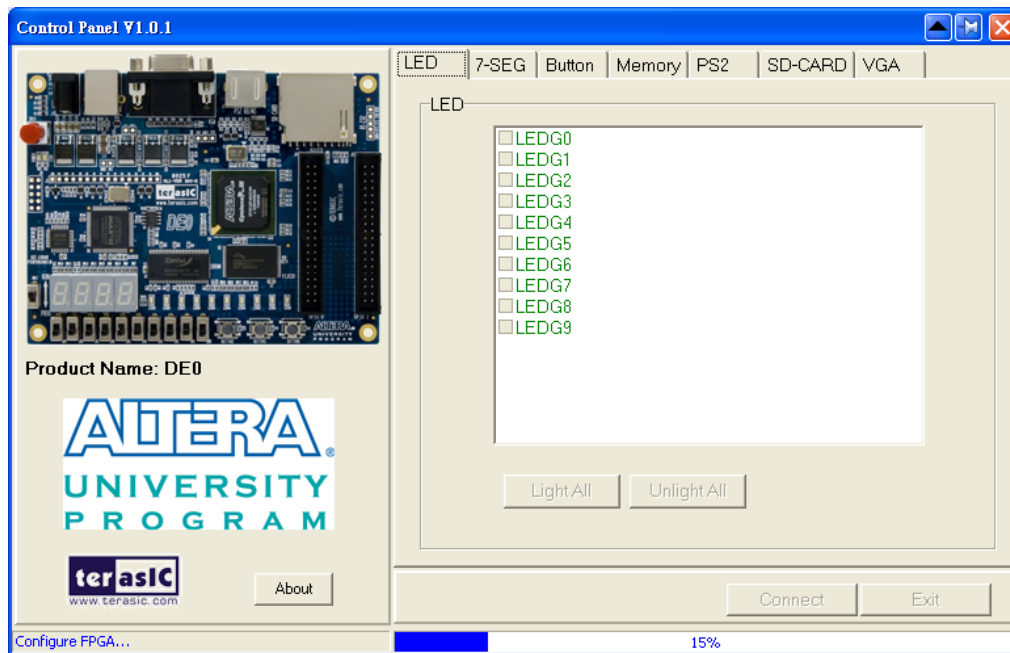

Figure 3-1. The DE0 Control Panel.
4. Start the executable *DE0\_ControlPanel.exe* on the host computer. The Control Panel user interface shown in Figure 3-1 will appear.